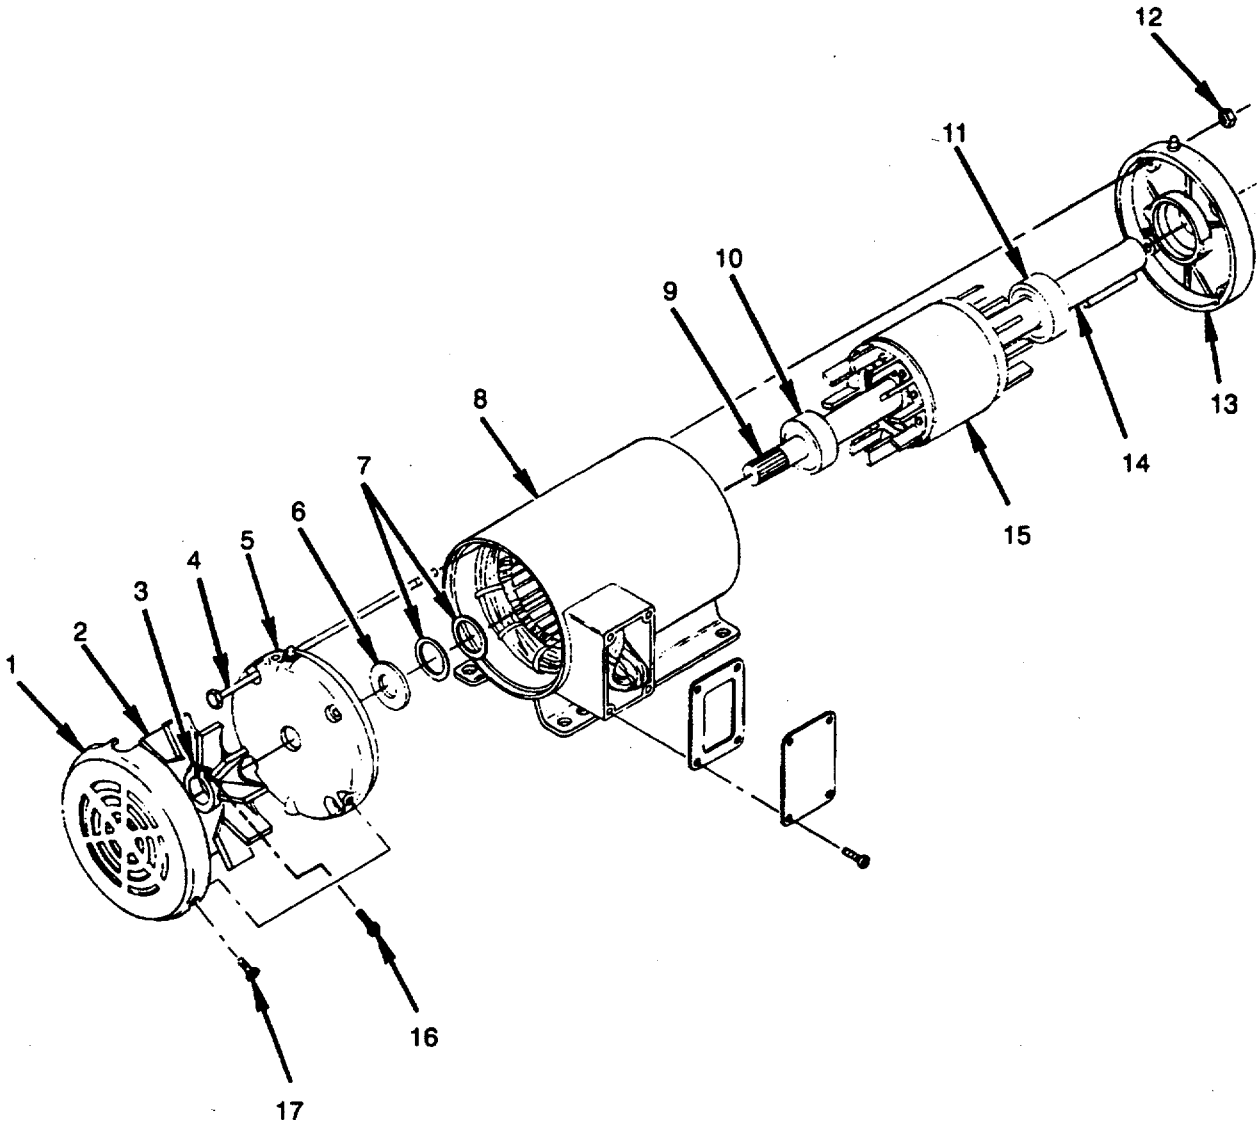

Figure 5-1. Evaporator Motor (B1)
1. Remove three screws (17) (see Figure 5-1).
2. Remove fan shield (1) from end cap (5).
3. Loosen fan clamp screw (16).
4. Pry open clamp (3).
5. Remove plastic fan (2) by prying off shaft.
6. Match-mark motor frame (8) and end caps (5) and (13).
7. Remove four end cap nuts (12) and through bolts (4).